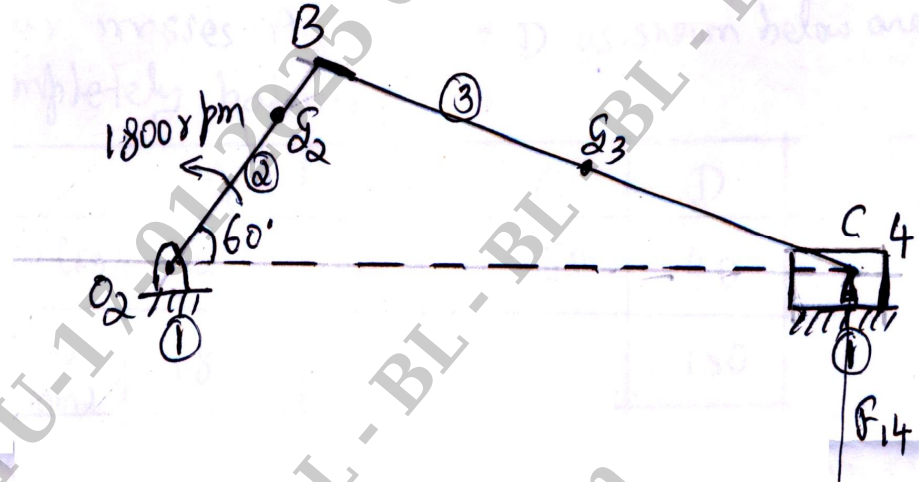

Fig. Q4 (b)
- b. The slider crank mechanism of a single cylinder diesel engine is shown in Fig.Q4 (b). A gas force 17800 N acts to the left through piston C. The crank rotates counter clockwise direction at a constant speed of 1800 rpm. Determine the force F_{14} on the piston for the following details :